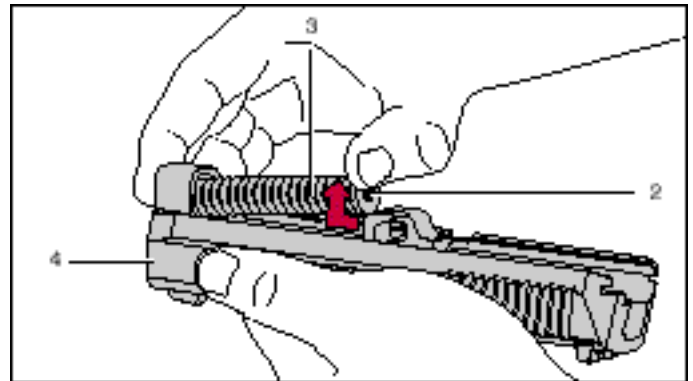

Fig. 11
7. Push the recoil spring guide 2 carefully forwards and to one side or lift off and remove the recoil spring 3 with the recoil spring guide 2 from the slide 4 (Fig. 11).